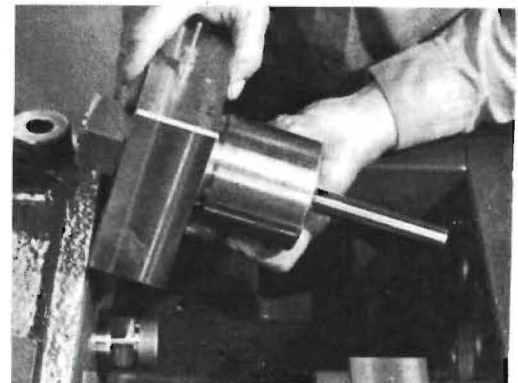

FIGURE 6-3
- I. SLIDE THE PACKING CARTRIDGE ASSEMBLY (WITH THE PLUNGER) OUT OF THE FRAME PLATE, AS SHOWN IN FIGURE 6-3.